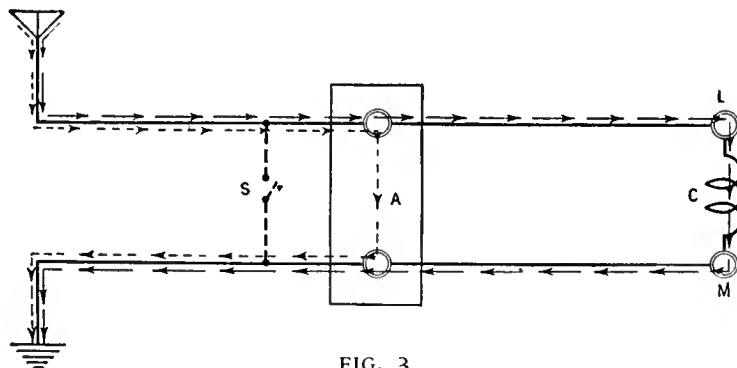

FIG. 3
**W**E NOW turn to Fig. 3, which shows an air gap type of lightning arrester connected to the radio-frequency input end of a receiver. Suppose a signal to be
3. If an antenna grounding switch is employed, it shall, in its closed position, form a shunt around the protective device. Such a switch shall not be used as a substitute for the protective device. (Note "S," Fig. 3).